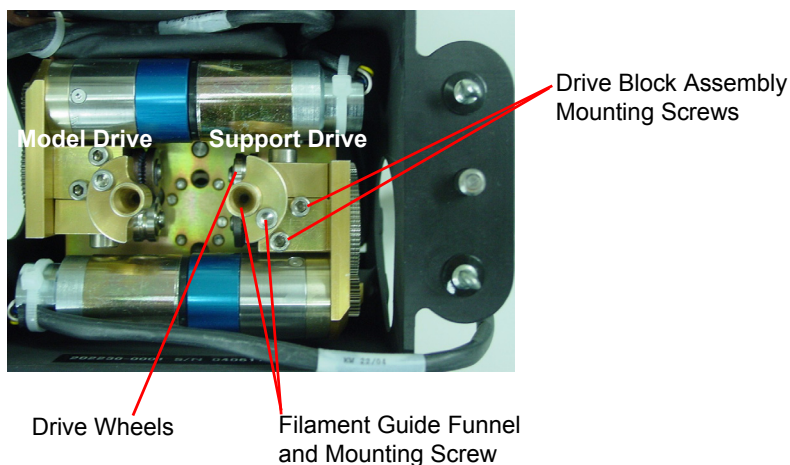

Figure 20: Removing the drive block assemblies to check for buildup
- B. Remove the support drive block first. Use a 7/64" Allen wrench to remove the two screws securing the motor assembly as shown in Figure 20.
Use the 7/64" Allen wrench provided in the Startup Kit to remove the filament-guide mounting screw as shown in Figure 20.